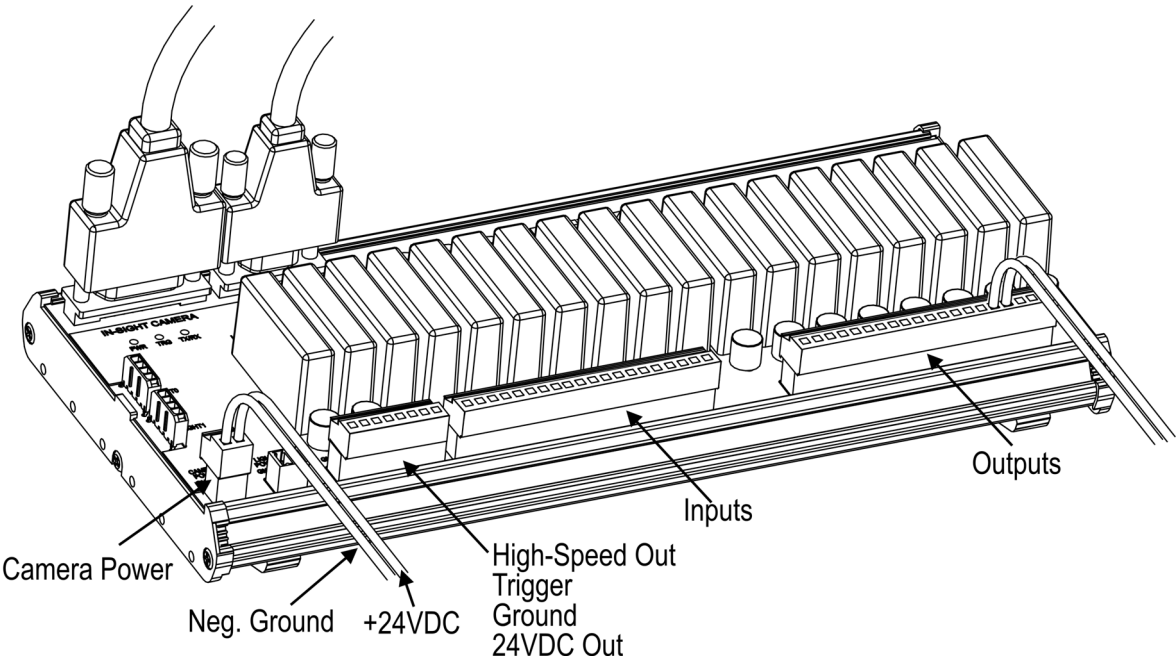

Figure 2-6: Connecting +24VDC and Ground Wires.
6. Insert wire leads from a 24VDC supply for the +24V power and ground into the 2 pin terminal plug labeled “CAMERA POWER” on the Expansion Module (Figure 2-6).